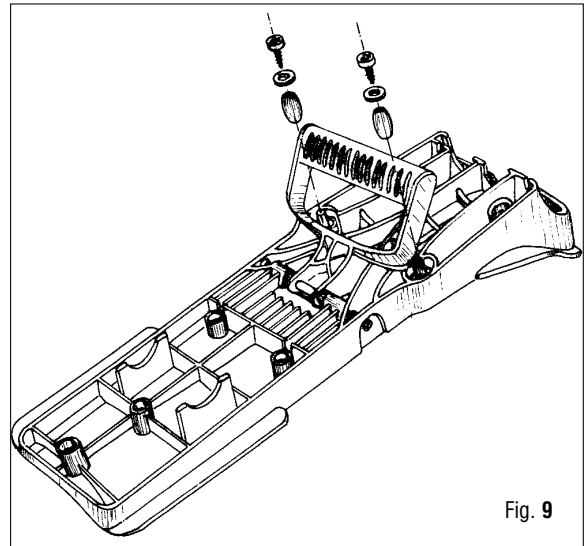

Fig. 9
- 74. Put plate (15) on a surface with hose housing (grooves) facing up. (Fig. 9)
- 75. Insert the two rolls in plate pin located on top half, over knob seat (fig. 9).
- 76. Lock rolls down with screws (27) and washers (11), using a screwdriver (USAG 322 PH 1 type).
- 77. Position knob (16) in its seat, and align knob hole with plate holes.
- 78. Insert rod (17) and lock knob down (16).